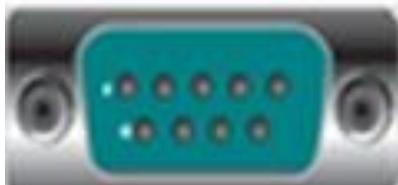
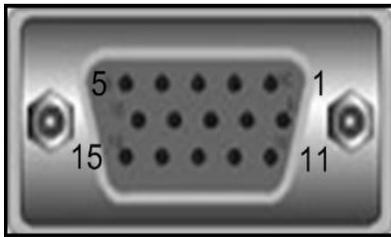

Figure 3-38: COM1 Serial Port Pinout Locations
Figure 3-39: VGA Connector
- CN Location:** See **Figure 3-38** and **Figure 3-39**